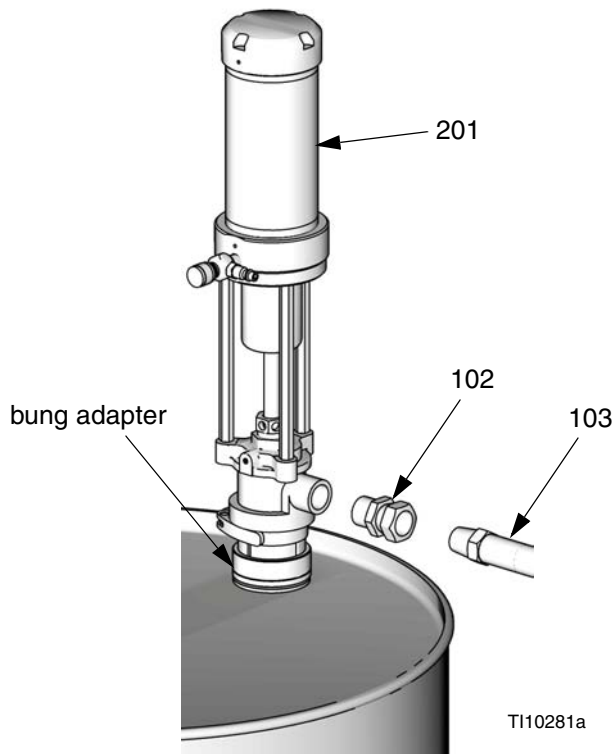

FIG. 2. Standard 2:1 Kit
4. Install swivel fitting (102) in pump fluid outlet. See FIG. 2.